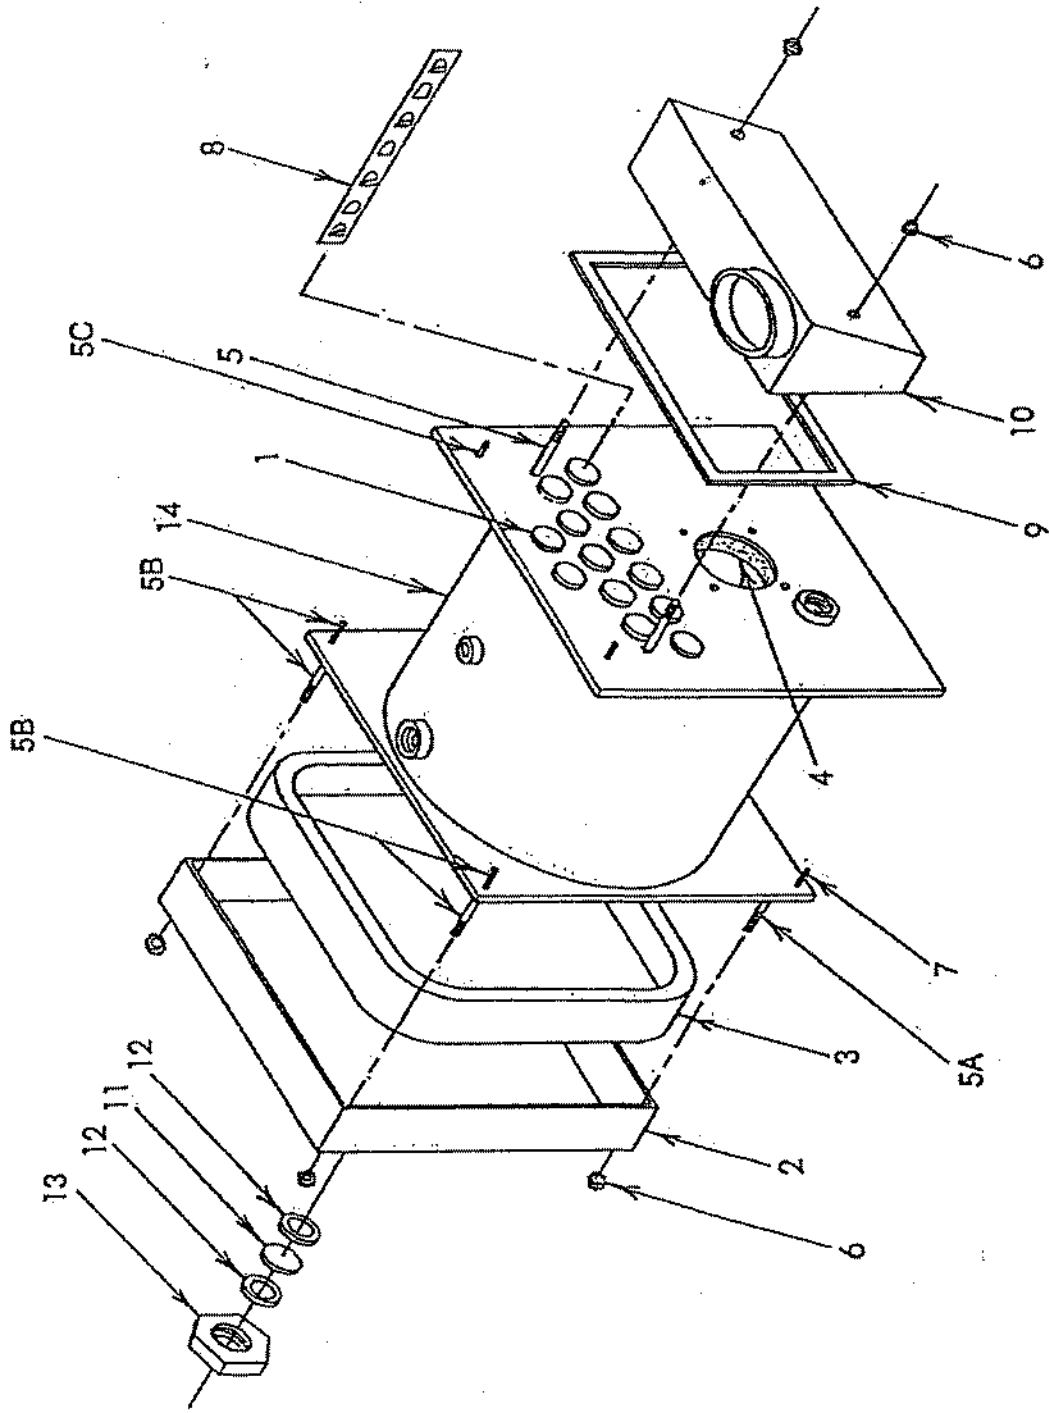

Figure 10
- III. An expanded isometric nomenclature detail is shown in Figure 10 p.27 for a qualified technician's information on a composite assembly and/or disassembly. P.27A identifies the components.
(Fig. 10 Page 27)